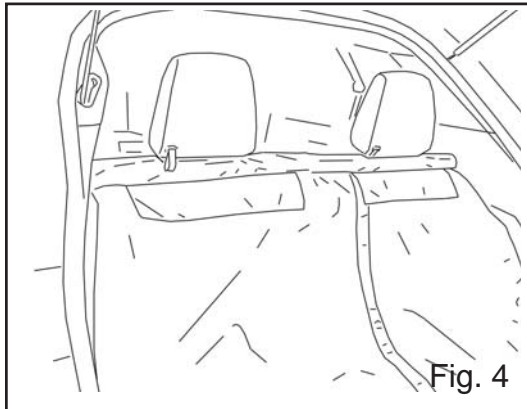

Fig. 4
- 4 Extend cover and install over 3rd row seat. (Fig. 4)